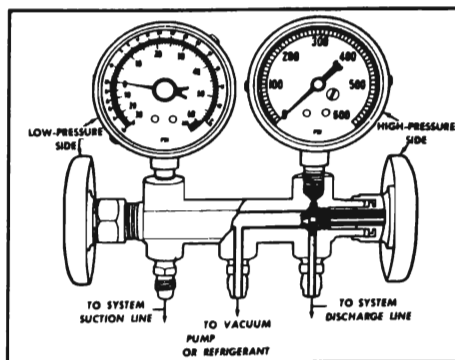

Figure 11-96—J5725-01 Manifold and Gauge Set
2. Using Adapters J-5420, connect charging lines of pressure gauge set and Manifold J-5415 to schrader valves with both valves of manifold closed. See Figure 11-96.